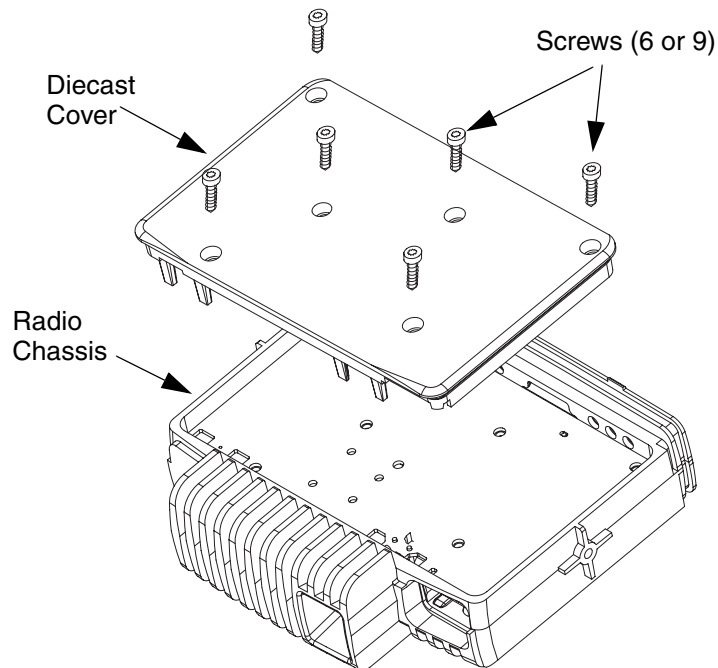

Figure 2-4: Diecast Cover Removal
1. Remove six screws (nine for LowBand) from the diecast cover using the T20 TORX™ driver as shown in Figure 2-4.